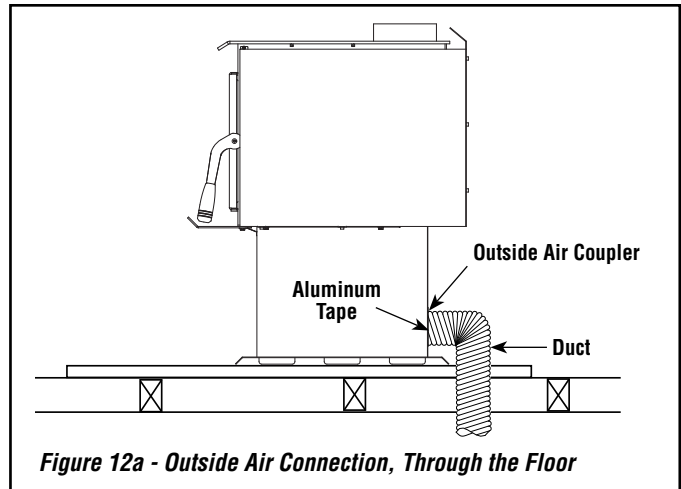

Figure 12a - Outside Air Connection, Through the Floor
- Attach the duct to the coupler on stove (*see Figures 12a and 12b*). Using the aluminium tape provided, wrap the tape around the joint between the flexible duct and the air inlet.